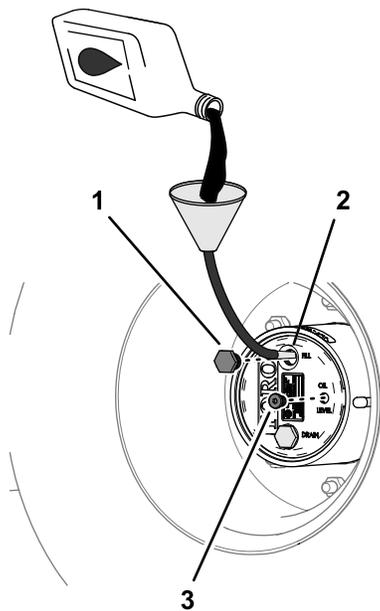

Figure 95
4. If the lubricant level is low, remove the fill plug and add the specified lubricant until it begins to flow out of the check-plug hole (Figure 95); refer to Planetary-Gear-Drive Lubricant Specification (page 67).
6. Install the fill plug and the check plug (Figure 95).
1. Through the fill-plug hole, slowly add the specified gear lubricant; refer to Figure 95 in Checking the Planetary-Gear-Drive Lubricant \(page 67\).
3. Install the fill plug and check plug; refer to Figure 95 in Checking the Planetary-Gear-Drive Lubricant \(page 67\).